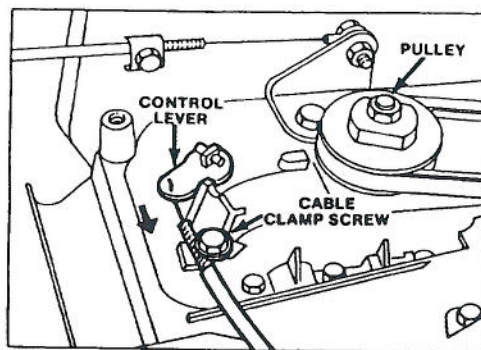

Figure 25
3. ADJUSTMENT (Fig. 25) — Loosen cable clamp screw until cable conduit slides. Push transmission control lever toward cable clamp screw and hold lever in place. Pull cable to remove slack and tighten clamp screw.
4. CHECK ADJUSTMENT — Assure ground speed control is in "N" and pull mower backward. Pulley (Fig. 25) should not rotate. If pulley does rotate, readjust for neutral; refer to step 3.